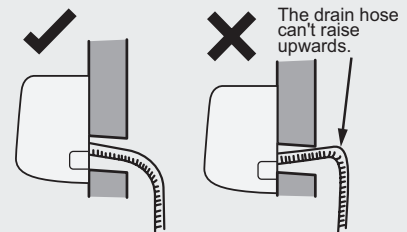

Fig.25
- The through-wall height of drain hose shouldn't be higher than the outlet pipe hole of indoor unit. (As shown in Fig.25)